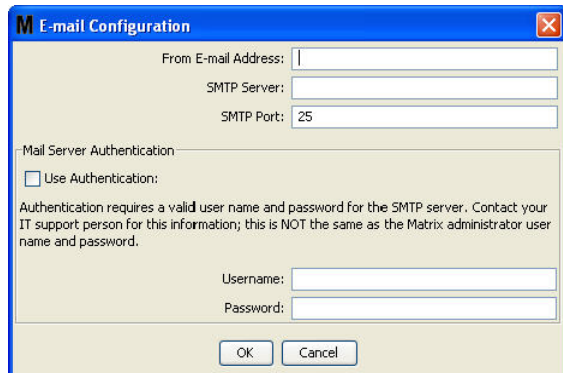

FIG. 137
2. The E-mail Configuration screen shown in FIG. 137 displays.